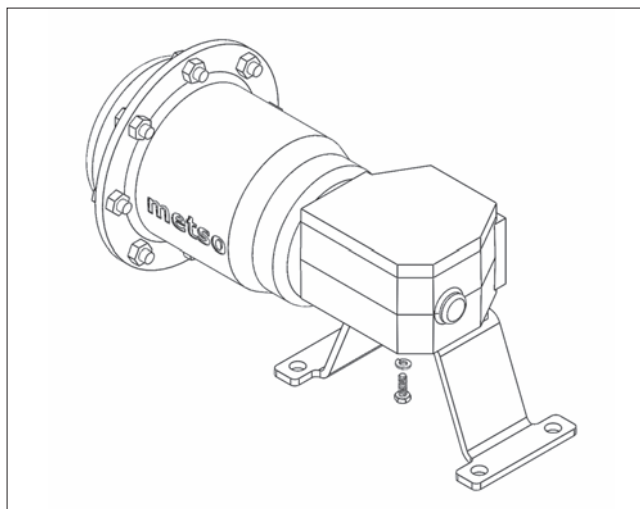

Figure 10.
2. 3" thru 6" (DN 65 thru 150) Valves - To ensure proper handle/shaft engagement, the handle must be mounted on the shaft such that it rests on the bottom of the shaft blade. (See **Figure 10**)